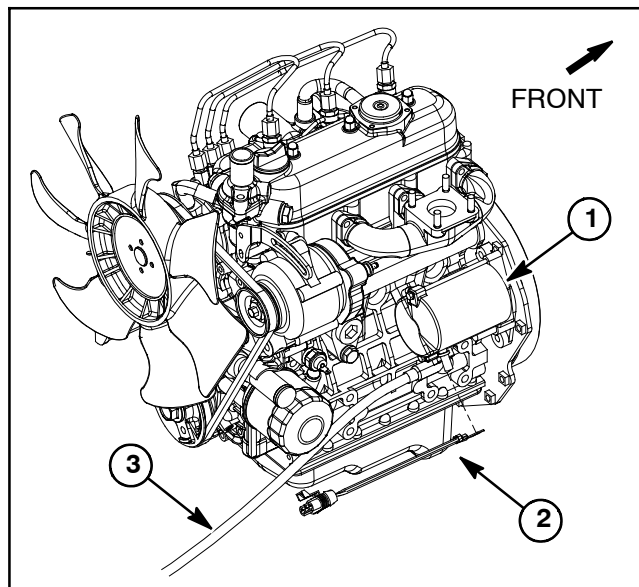

Figure 63
The Reelmaster 5010-H uses three (3) fusible links for circuit protection. These fusible links are located in a harness that connects the starter B+ terminal to the main wire harness (Fig. 63). If any of these links should fail, current to the protected circuit will cease. Refer to wire harness drawings in Chapter 9 – Foldout Drawings for additional fusible link information.